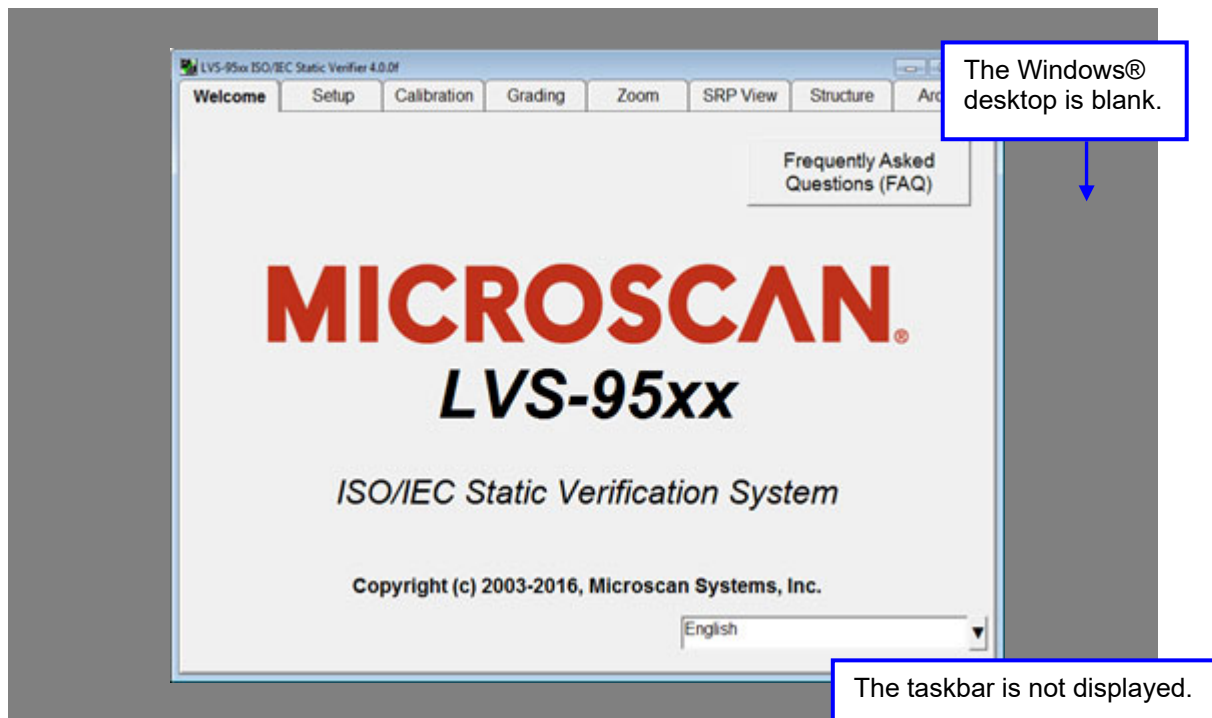

Figure 50: Example of lockdown mode
14. The computer is in lockdown mode when restarted and all Windows® desktop functionality is disabled. For example, the desktop appears blank and no taskbar appears at the bottom of the screen (Figure 50).